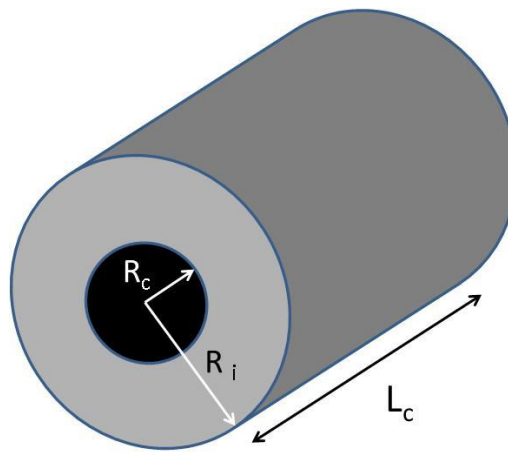

Figure 1 High voltage cable
- ii) The charge density. (6)
- c. Figure 1 shows a section of a high voltage cable in which the core conductor has a radius R_c , the insulation an outer radius of R_i and an overall cable length L_c . The core conductor of the cable carries a total charge Q and the insulation has a relative permittivity of ϵ_r . Starting from Gauss's Law derive expressions for the following: